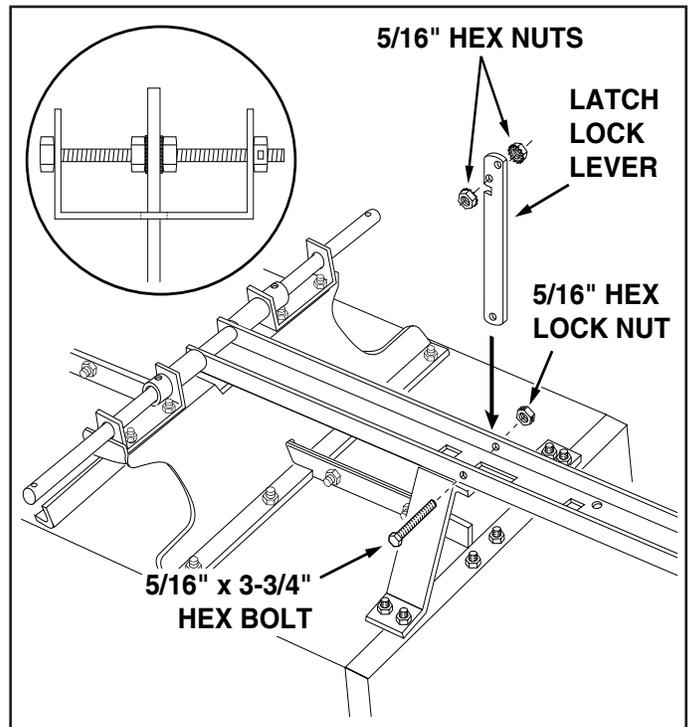

FIGURE 10
- Place the tongue, open side facing up, onto the wheel support and the latch stand bracket. See figure 10.
- Place the latch lock lever through the slot in the tongue as shown in figure 10. Assemble the 5/16" x 3-3/4" hex bolt through the tongue, the lever and two 5/16" hex nuts (one on each side of the lever). Assemble the 5/16" hex **lock** nut onto the end of the bolt and **tighten** so that the bolt can still rotate freely. **Tighten** the two 5/16" hex nuts against the sides of the latch lock lever so that the lever is centered in the slot. See figure 10.